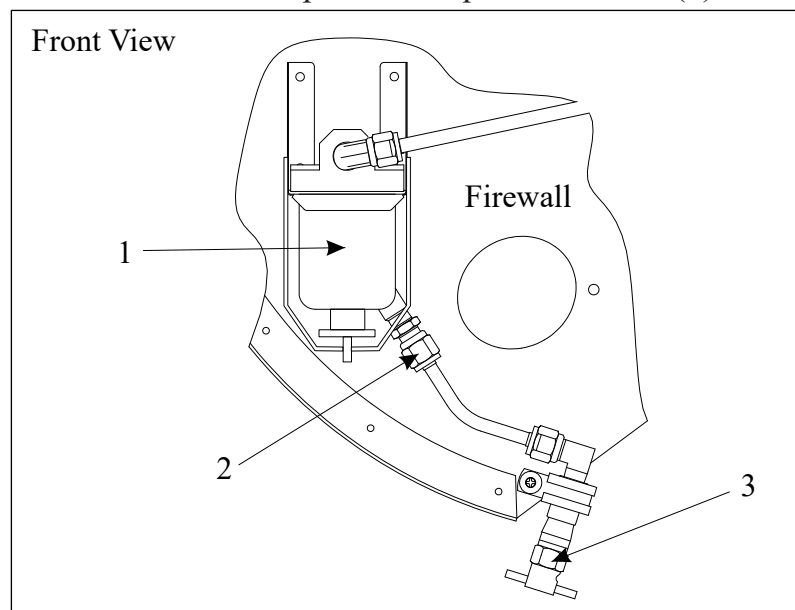
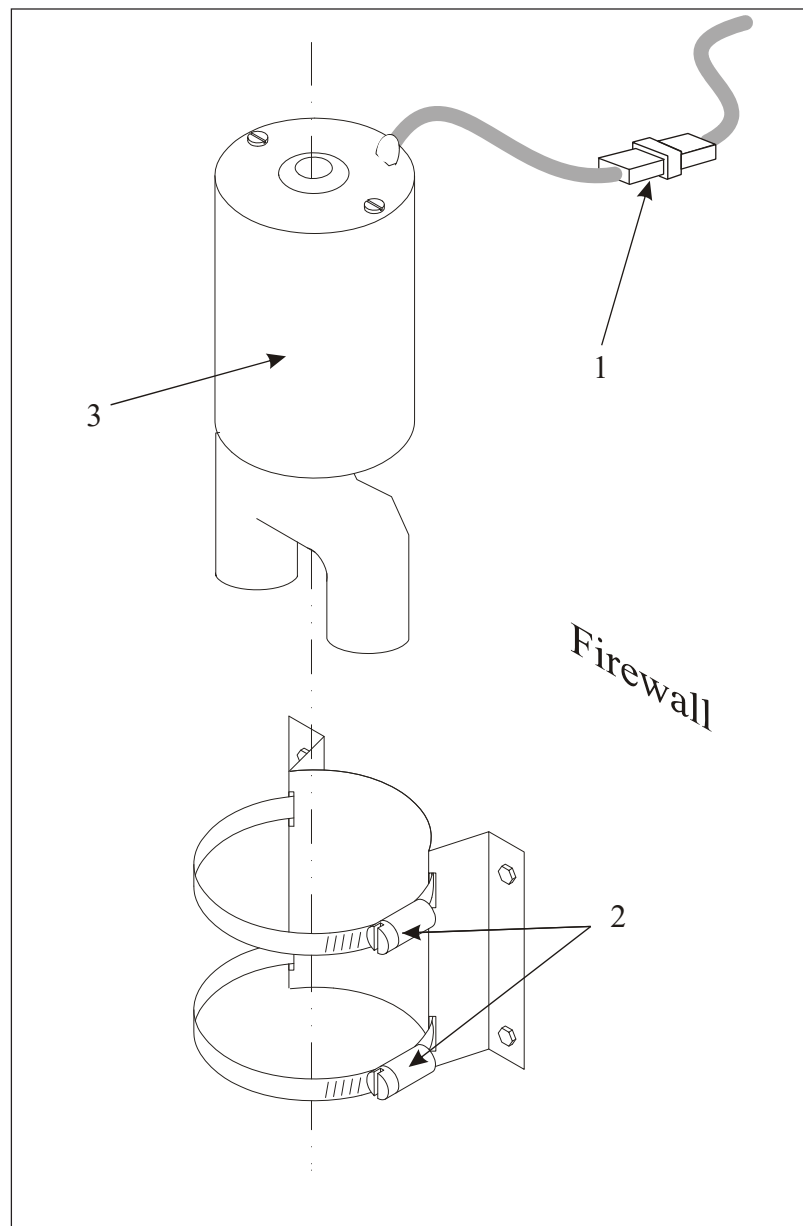

Figure 11 Gascolator and Drain
Figure 12
The gascolator (1, Figure 11) is positioned in the engine compartment, mounted with a bracket on the forward side of the firewall. It is installed in the fuel line between the fuel selector valve and the electric driven boost pump.
- 4 Place a suitable container under the gascolator drain. Operate the fuel drain to empty fuel in the gascolator bowl (3, Figure 11).
- 5 Disconnect the fuel drain tube connection from the gascolator bowl (1) by loosening the coupling nut (2).
- 7 Loosen the bail nut (1, Figure 12), move the bail wire (2) to the side and remove the bowl (3).
- 8 Remove the gasket (4) and screen (5) from the strainer housing (6).
- 9 Clean and inspect the screen (5), gasket (4), bowl (3), strainer housing (6), bail wire (2) and bail nut (1). Replace any worn or damaged components.
- 10 Reinstall gasket (4) and screen (5).
- 11 Position the gascolator bowl (3) and bail wire (2). Tighten the bail nut (1) by hand, then continue tightening an additional one nut flat (i.e., 60 degrees) with a wrench. Do not over tighten.
- 13 Safety the gascolator bail nut (1) to bail wire (2) and bowl (3), bail wire (2) to the gascolator bracket with MS20995-C32 Safety Wire, using the “double twist” method, as described in FAA Advisory Circular AC 43.13-1B CHG 1, Chapter 7, Section 7, “SAFETYING”.
- 2 Disconnect the plug (1, Figure 12) and the fuel lines from the boost pump.
- 3 Loosen the screw clamps (2).
- 4 Remove the boost pump (3).